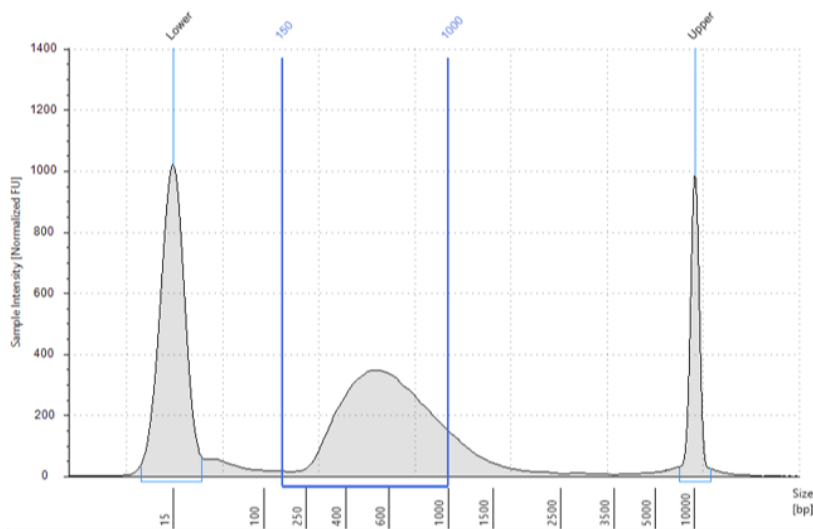

Figure 2. An example of exome captured library profile from a TapeStation High Sensitivity D5000 ScreenTape assay.
2. To determine the library concentration, set the Region on the Bioanalyzer or TapeStation analysis software from 150 bp to 1000 bp. Record sample Concentration (nM) for this region (see Figure 2). To determine the library size, set the Region from 150 bp to 3000 bp. Record sample Average Size (bp) as Library Size.